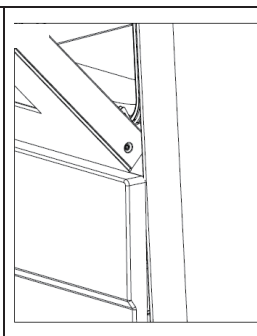
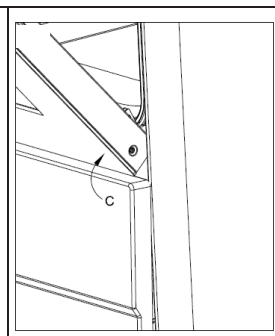

Fig.3
Fig.4
- Hold the door as shown in (fig.3).
- Gently close the door (fig.3) until left and right hinge levers A are hooked to part B of the door (fig.4).
- Withdraw the hinge hooks from their location following arrow C ( fig.4).